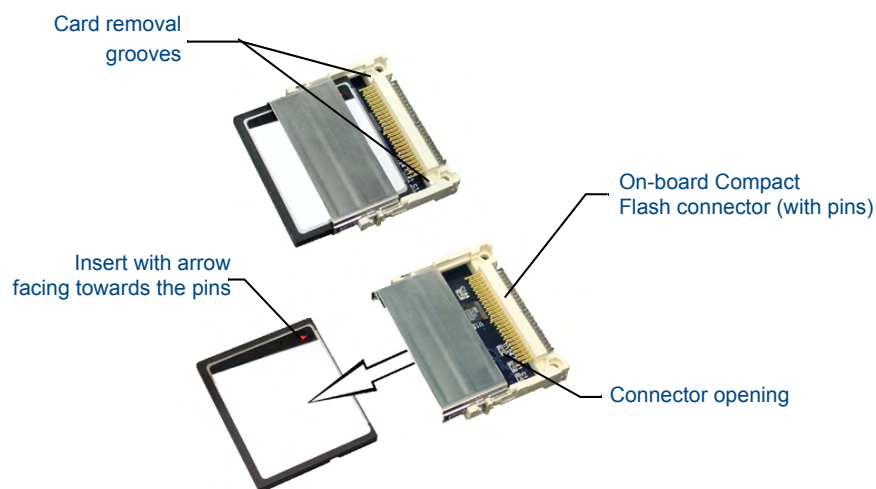

FIG. 7 Removing/installing a Compact Flash Memory card
3. Insert the tip of a grounded flat-head screwdriver into one of the card removal grooves (located on either side of the existing card), and gently pry it out of the slot (FIG. 7). Repeat this process on the opposite card removal groove. *This alternating action causes the card to "wobble" away from the on-board connector pins.*
3. Insert the tip of a grounded flat-head screwdriver into one of the card removal grooves (located on either side of the existing Compact Flash card), and gently pry it out of the slot (FIG. 7). Repeat this process on the opposite card removal groove. *This alternating action causes the pre-existing card to "wiggle" away from the on-board connector pins.*
5. Finish the process by firmly gripping the exposed sides of the card and pulling it out (FIG. 7). **USE CARE WHEN HANDLING THE CARD.**
6. Insert the new card firmly into the slot opening connector (FIG. 7) until the contact pins are completely inside the card and securely attached to the pin sockets.